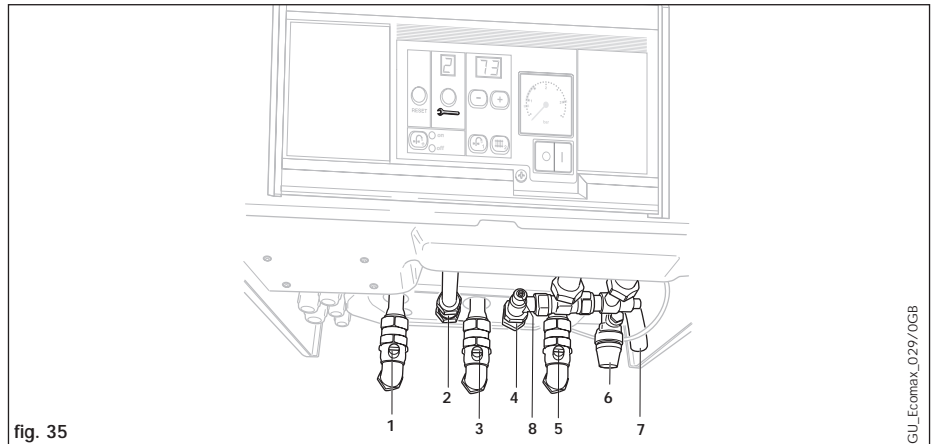

fig. 35
The gas supply to the boiler can be purged by slackening the gas service valve beneath the boiler (3, fig. 35). Ensure that there is adequate ventilation, extinguish all naked flames and do not smoke whilst purging.
Open all domestic hot water taps supplied by the boiler, turn on the mains water supply to the boiler and open the mains water isolating valve below the boiler (8, fig. 35).
Ensure that the boiler CH service valves (1 and 5, fig. 35) are open. Partially open the filling valve and allow water to enter the system. Starting with the lowest radiator, open the radiator air release until water (clear of bubbles) is emitted.
Check the operation of the pressure relief valve by rotating the knob on the valve (6, fig. 35).
- Ensure the cold water shut off valve (8, fig. 35) is open by turning anti-clockwise.
- Open the gas service valve (3, fig. 35).
- Check that the CH service valves (1 and 5, fig. 35) are open.